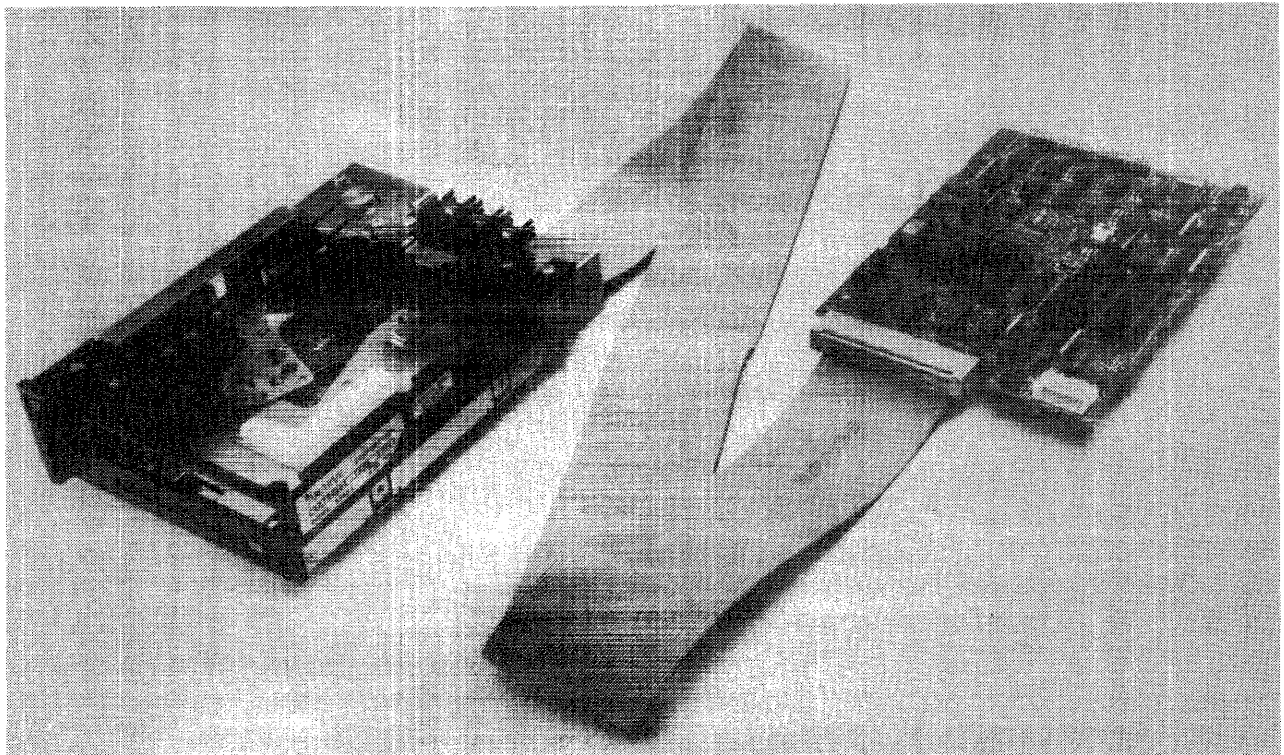

Figure 5.2 Half-High Basic Tape And SAC PWB
- A half-high Intelligent option mounts the Basic tape drive away from the Stand Alone Controller (SAC) PWB with a ribbon cable connecting them (Figure 5.2)